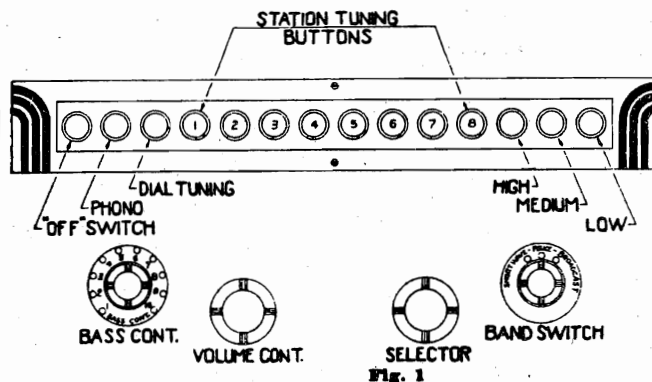

Fig. 1
NOTES: FIGS. 1, 2, 3 AND 4 SHOW SCHEMATICALLY THE SETTING UP AND AUTOMATIC TUNING OF PUSHBUTTON NO. 1. THE OTHER PUSHBUTTONS FOLLOW THIS PATTERN BUT AREN'T SHOWN FOR CLARITY OF DIAGRAM. FIG. 1 SHOWS THE SETTING UP OF PUSHBUTTON 1, WITH THE MANUAL AND NO. 1 BUTTONS DEPRESSED. THE PILOT LAMP WILL LIGHT, BEING ENERGIZED ACROSS THE 6-Y. TAP THROUGH THE MOTOR WINDING (A), ROTOR PLATE X, CONTACT 1, AND THE PUSHBUTTONS. WHEN BUTTON NO. 1 IS ADJUSTED TO THE CORRECT FREQUENCY, THE PILOT LAMP GOES OUT BECAUSE CONTACT 1 IS THEN POSITIONED BETWEEN PLATES X AND Y, SIMILAR TO FIG. 3, WHICH BREAKS THE ELECTRICAL CONTACT. IN ORDER TO TUNE TO STATION 1 AUTOMATICALLY, PUSHBUTTON 1 IS DEPRESSED, ENERGIZING THE MOTOR ACROSS 18-V AS SHOWN IN FIG. 2. SINCE THE (A) WINDING IS ENERGIZED, THE MOTOR WILL TURN PLATES X AND Y IN DIRECTION OF ARROW SHOWN UNTIL CONTACT IS BROKEN, WHICH WILL OCCUR WHEN PLATES REACH POSITION SHOWN IN FIG. 3. IF THE MOTOR DOES NOT STOP FAST ENOUGH, THEN PLATES X AND Y, WHICH ARE MECHANICALLY GANGED BY THE SHAFT TO THE TUNING CAPACITORS, WILL TURN TOO FAR, PUTTING THE STATION OUT OF TUNE BUT IF THEY DO ROTATE TOO MUCH THEY MUST ASSUME THE POSITION SHOWN IN FIG. 4 WHICH THEN ENERGIZES THE OTHER (B) WINDING OF THE MOTOR, REVERSING THE DIRECTION OF ROTATION UNTIL IT COMES TO A STOP AT ITS CORRECTLY TUNED POSITION SHOWN IN FIG. 3.
The first step to take in adjusting the electric push button device incorporated into this receiver is to choose eight (8) of the most powerful local stations, stations which are free from excess fading. Turn on the receiver (broadcast band) and press in the dial tuning button; tune in the station of the lowest frequency, using the station selector knob. Now hold the dial tuning button in and press in button number one (1). (See Figure 1). Both buttons are now locked into place; a small pilot lamp located at the rear of the chassis will light up unless the thumb screw at the rear accidentally happens to be correctly set. Loosen thumb screw number one (See Figure 2 for order of thumb screws) enough to allow it to slide freely back and forth until the light goes out. Now tighten the thumb screw; the adjustment for the first station is now complete. Out of the station call letter sheet supplied remove the proper station call disc and insert into the recess of button number one. Push one of the clear celluloid discs into the recess also, over the station call disc. Now release button number one by pressing the dial tuning button in as far as it will go.
NOTE: In the recesses of the white push buttons insert the words found in the call letter sheet as shown in Figure 1.